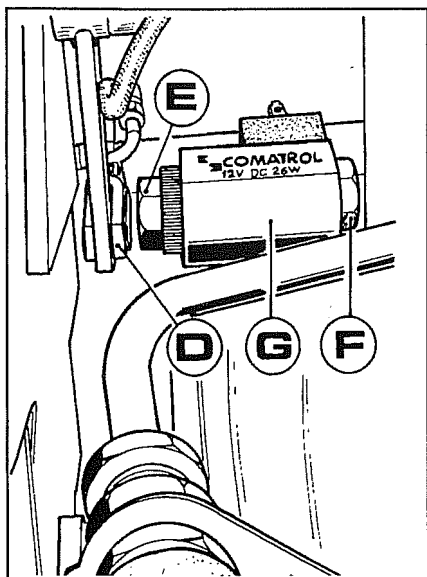

Fig. 17
- 2- Disconnect the dual traction control fork **D** Fig.17 to prevent it from getting in the way when you remove the solenoid coil.
3. Slacken off nut **E** Fig.17 so that coil **G** can be moved away and you can use a wrench to slacken off nut **F** on the solenoid and then remove the entire assembly.
- a. Mount coil **G** Fig.17 on the solenoid.